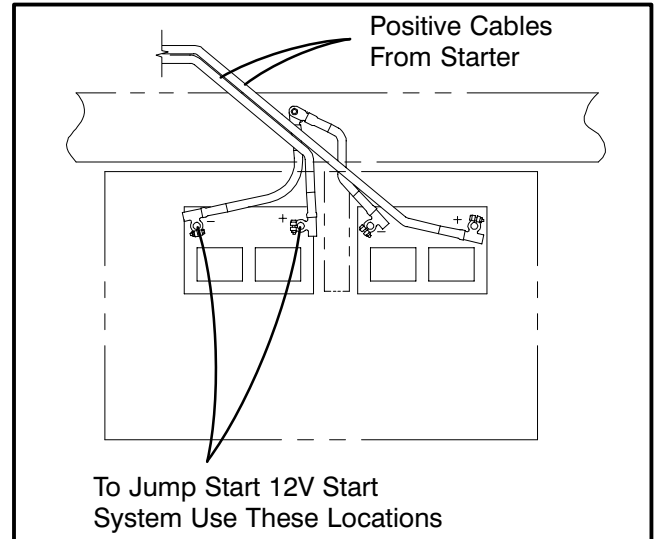
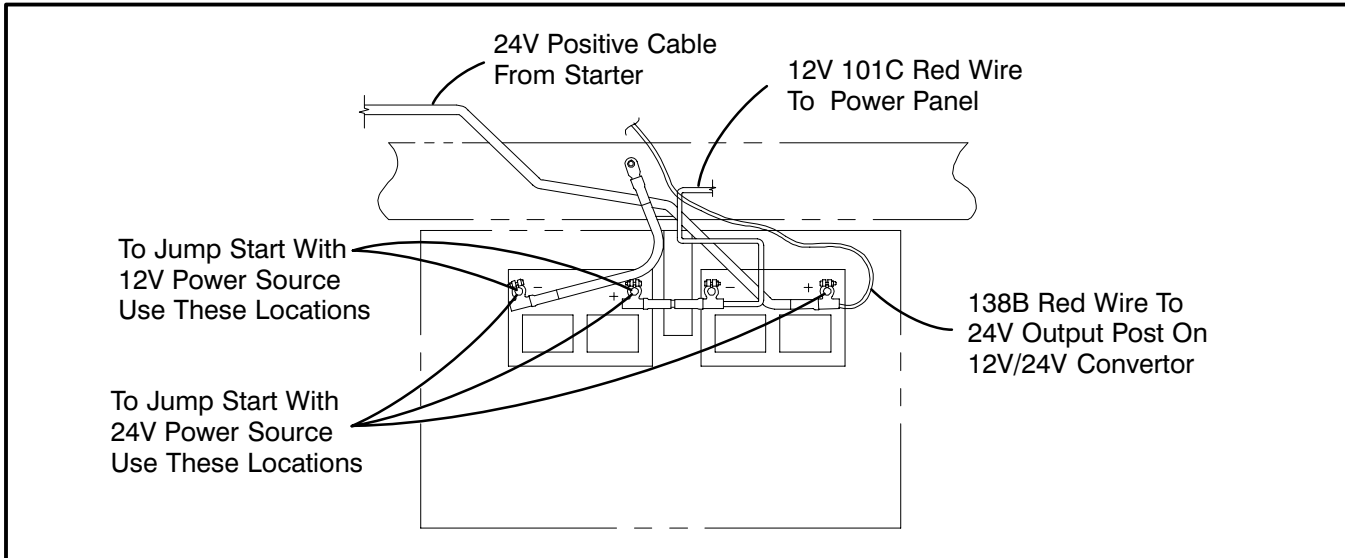

Figure 1-66
Figure 1-67
The crane has two (2) 12V batteries. The crane may be configured with a 12V start system or the optional 24V start system. Refer to Figure 1-66 and Figure 1-67 to determine which system the crane is equipped with.
To jump start the crane equipped with 12V start system a 12V power source and two (2) jumper cables are required. Refer to Figure 1-66.
To jump start the crane using a 24V power source, three (3) jumper cables are required. Refer to Figure 1-67.